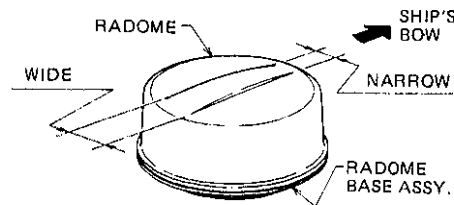

Fig.10 Radome Cover Placement
- Install the radome on the radome base assembly, being careful of its direction. The narrower recessed part should face the bow direction. See Fig.10.